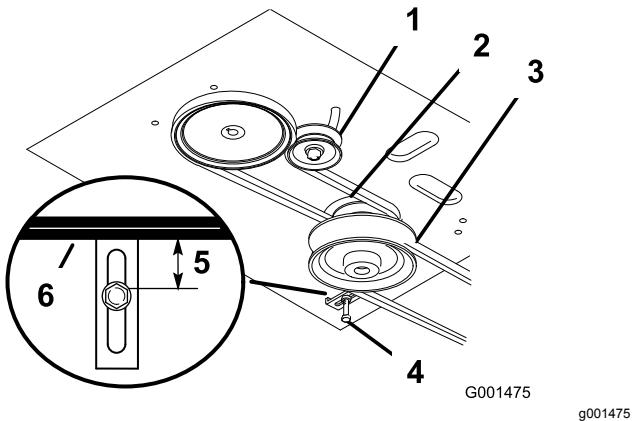

Figure 43
8. Check the belt guide under the engine frame for proper adjustment (Figure 43).
Note: The distance between the belt guide and the mower belt should be 19 mm (3/4 inch) when you engage the mower belt (Figure 43). Adjust the mower belt as necessary. The disengaged belt should not drag or fall off the pulley when the guides and belt tension are properly adjusted.